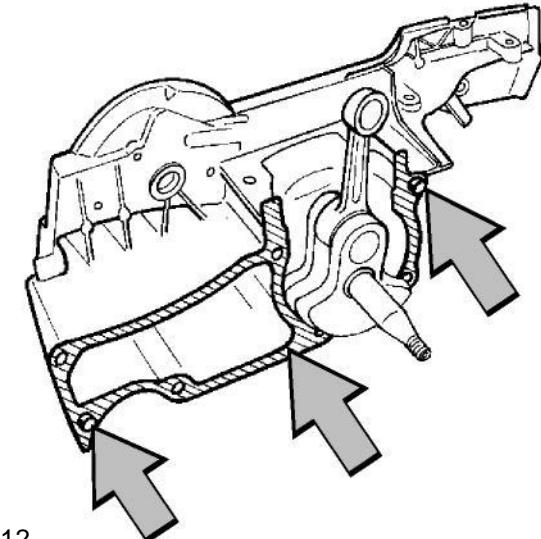

Fig. 12
- Locate the guide pegs in the clutch side crankcase half, grease and locate the gasket. See fig. 12.